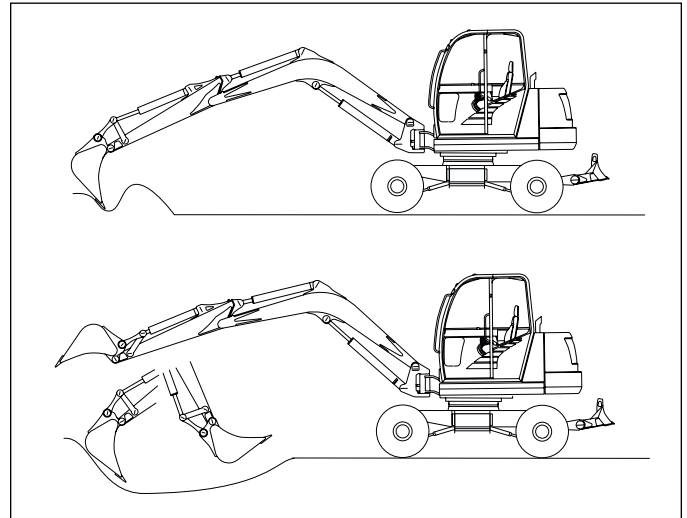

Figure 3-14. Proper Excavating
- To obtain maximum digging performance, avoid fully extending the excavator arm. Excavate using long, flat pulling movements of the arm (Figure 3-14).